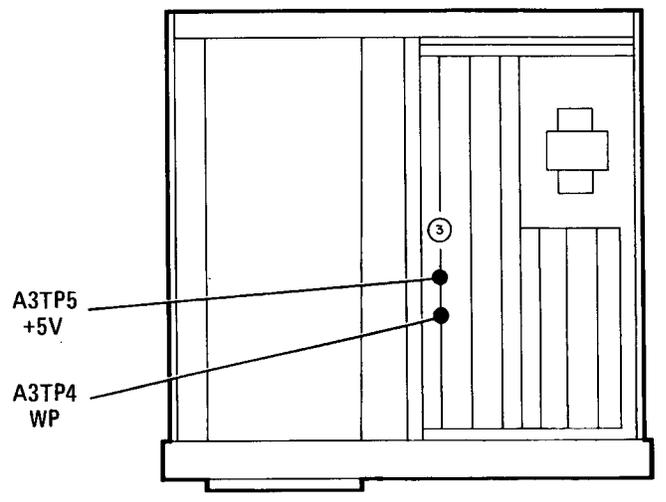

Figure 4-3. Location of HP 8756A Test Points WP and +5V
6. To store the calibration data in the network analyzer, select the softkey [YES] when prompted. (At this point the calibration data still resides in the controller memory.) Remove the top cover of the HP 8756A by disengaging the captive screw on its upper rear edge. Refer to Figure 4-3 and **carefully** use a jumper to connect test point WP (A3TP4) to +5V (A3TP5) of the HP 8756A when prompted. Take care: do not short either test point to ground. Shorting either test point to ground may necessitate cycling the HP 8756A power switch to return to an operational state. Connecting the jumper and selecting the [CONTINUE] softkey when prompted enables the controller to load the calibration data into nonvolatile memory of the HP 8756A.